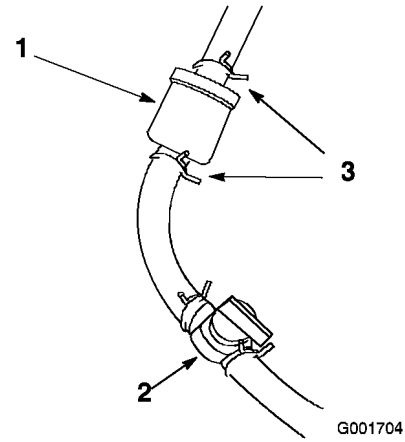

Figure 36
4. Loosen the hose clamp at the fuel filter and slide it away from the fuel filter (Figure 36).
5. Pull the fuel line off fuel filter (Figure 36). Open fuel shut-off valve and allow gasoline to drain into a gas can or drain pan.
6. Install the fuel line onto the fuel filter. Slide the hose clamp close to the fuel filter to secure the fuel line (Figure 36).